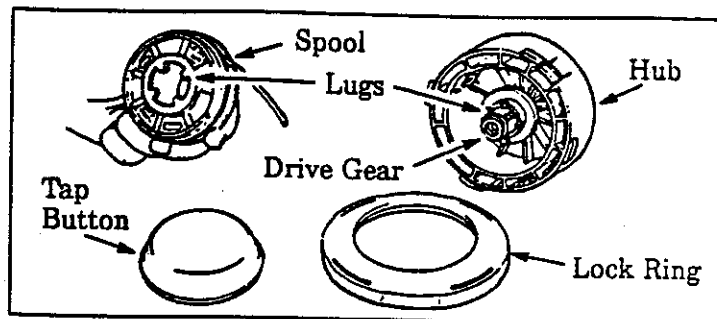
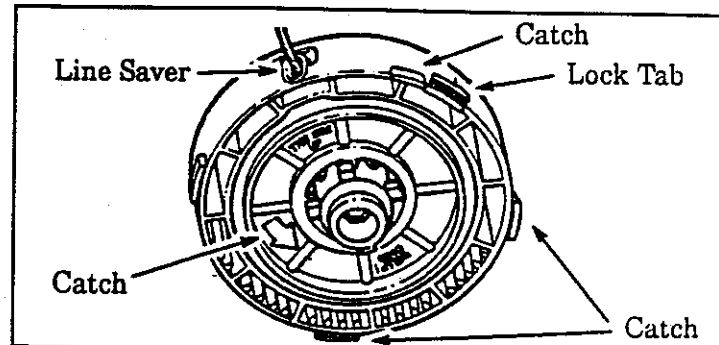

Figure 22
Figure 23
- b. Remove the lock ring, tap button, and spool. Figure 22.
**NOTE:** The aluminum line saver (Figure 23) can become worn during use. After a groove is worn into the line saver, remove it from the trimmer head, turn it upside down, and reinstall it (with spool removed) to provide a new wear surface.
- e. Insert the end of the line through the line saver. Figure 23. Place the spool in trimmer head. Press the spool down, then turn it enough to lock the lugs on the spool under the lugs on the drive gear. Figure 22.
- f. Replace the tap button. Align the lock ring over the catches on the hub; push the lock ring down on the hub and turn it clockwise until the catches lock into place. Figure 23.
- g. Check to make sure the lock ring is properly fastened by trying to turn it counterclockwise and pulling on it. If it comes off, reinstall it properly. Figure 23.